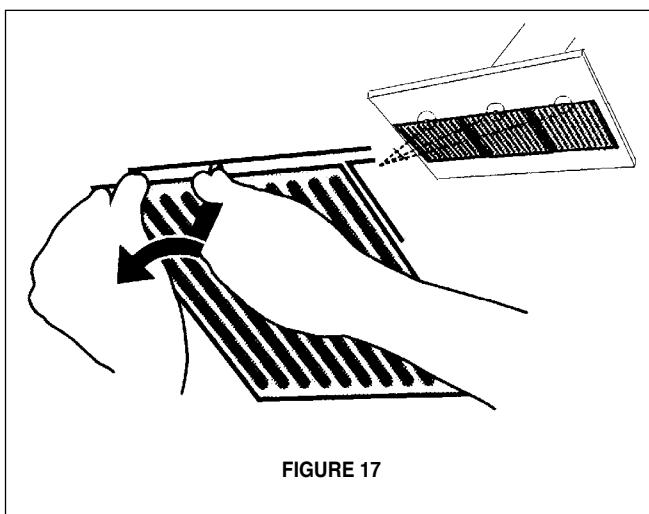

FIGURE 17
6. Install the grease filters using two hands by first pulling and turning the knob to the left so that the locking lever does not protrude from the filter (as in **FIGURE 17**). Insert the opposite end of the filter into the retaining channel. Insert the knob end next, then turn knob to the right to lock the filter into place.